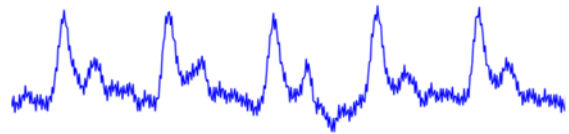

Fig. 7: The scope trace should look something like this. Your finger must be VERY still to avoid motion artifacts!
- You should see your PPG signal with an approximately 1V offset (see Fig. 7).